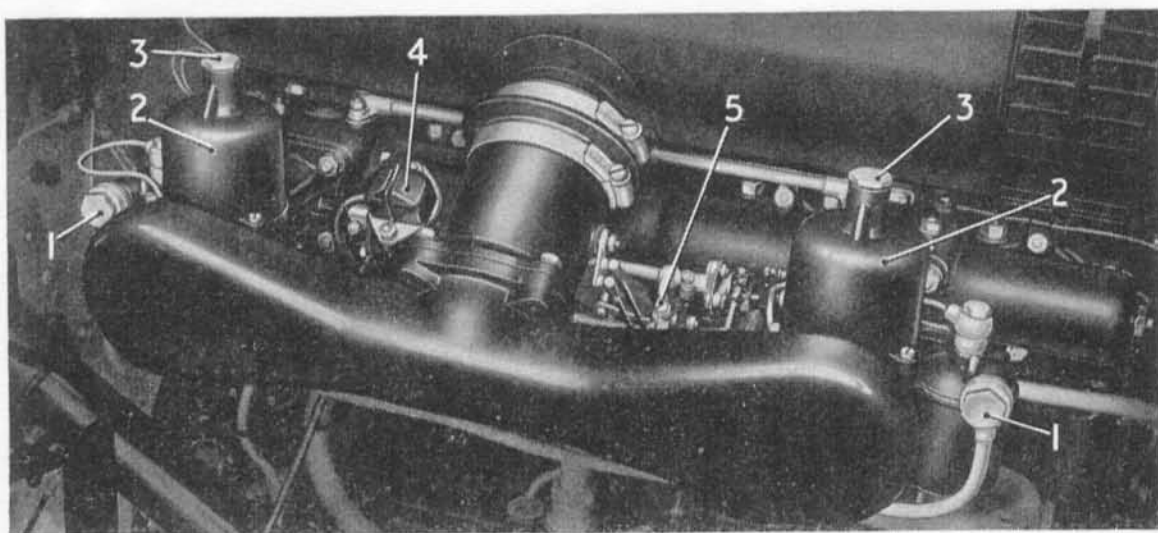

Fig. 13.—CARBURETTERS IN POSITION ON ENGINE.
Removal is effected by unscrewing the two union nuts (1, Fig. 13). The filter gauzes can then
Two carburetters of the conventional S.U. type are fitted as shown in Figs. 13 and 14, one being shown in section to illustrate the principal parts.
Every month, as directed on page 30, the oil reservoir cap nut (3, Fig. 13) should be unscrewed and the plunger withdrawn, *great care being taken to avoid damage to the plunger rod by bending*; the reservoir should be topped up, if required, with the recommended oil, so as to maintain the level of the oil to the top of the guide rod only. The plunger should then be replaced, taking care that no dirt or grit is present. A slight steady pressure may be required to displace the oil sufficiently to allow the engagement of the thread of the oil reservoir cap nut.
The quantity of mixture for slow running is determined by means of an adjustable screw stop on the front carburettor (5, Fig. 13) which limits the closing movement of both throttles. This is so adjusted that the engine will idle slowly but reliably when the accelerator pedal is released, no hand control being provided.
1. The quantity of mixture for slow running is determined by means of an adjustable screw on the front carburetter (5, Fig. 13) which limits the closing movement of the synchronised throttles.